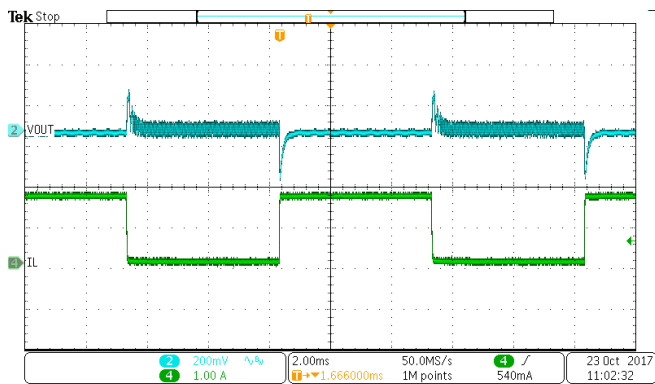

Figure 19. Load Transient (Vout=5V, Iout=0.2A to 1.8A, SR=250mA/us)
The SCT2323 and SCT2325 feature external programmable output voltage by using a resistor divider network R1 and R2 as shown in the typical application circuit Figure. 19. Use equation (11) to calculate the resistor divider value.